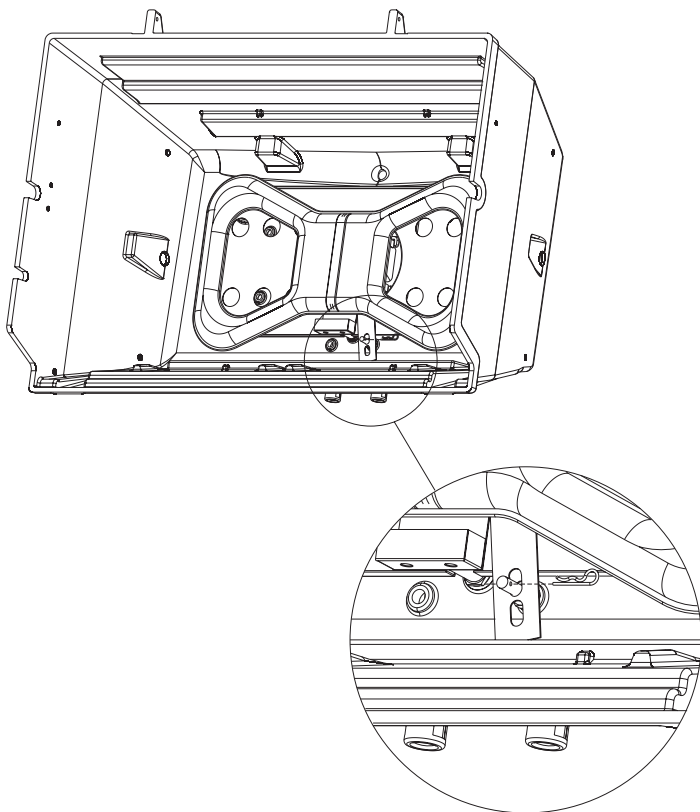

Figure 16
4. Slide the bridge pin through the hole in the 1/4-20 x 1 1/2 Philips Truss Head Screw as shown in Figure 16.